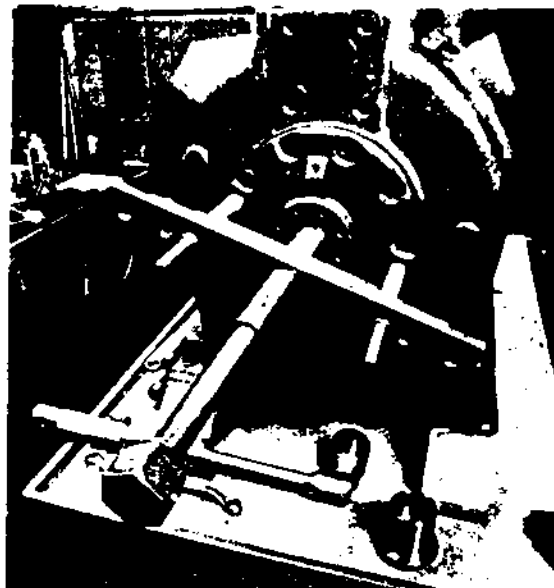

FIGURE 3 - Removing Pump End Bearing Insert
4. To remove the pump end bearing insert, the bearing head assembly (without the oil pump) must be reinstalled on the compressor. The bearing insert can be pushed through the head assembly into the crankcase, using the bearing driver, push rod, spacer tubes and utility bar as shown in Figure 3.